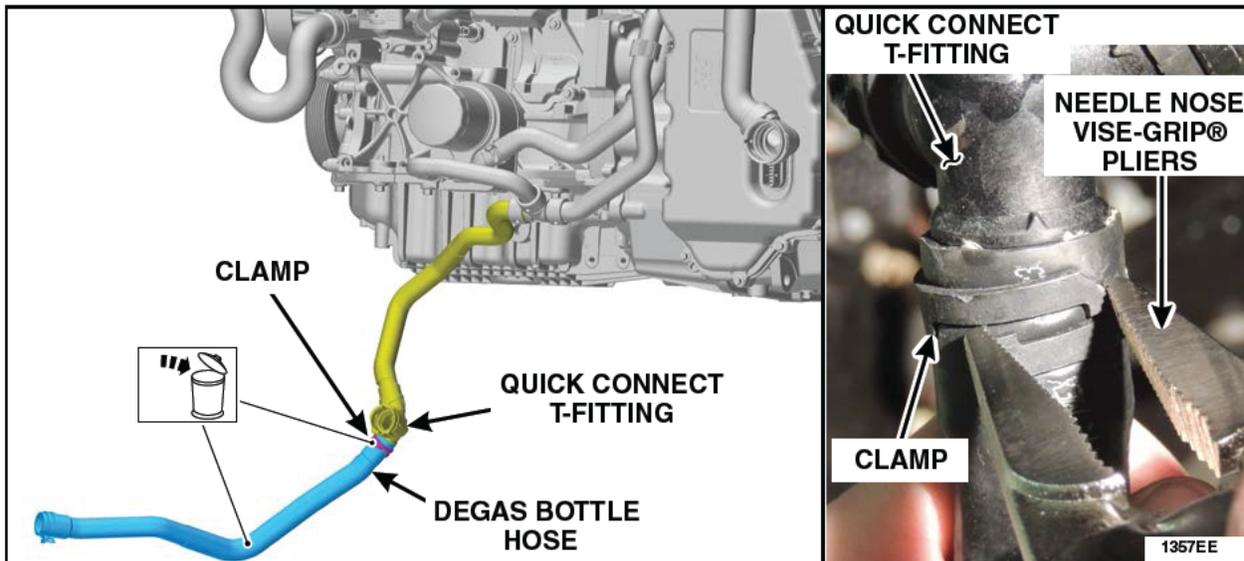

FIGURE I4
4. Position the degas bottle hose downward out the bottom of the engine compartment. See Figure I4.
5. Use a pair of needle nose VISE-GRIP® pliers to compress the degas bottle hose clamp and slide the clamp downward off of the quick connect T-fitting. See Figure I4.